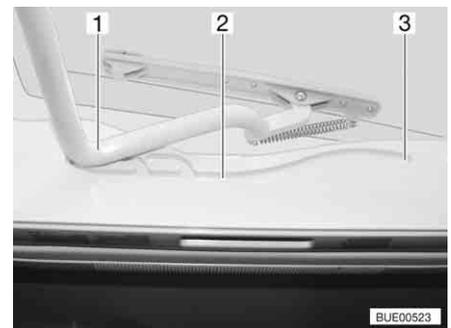

Fig. 58 Heki skylight, guide
- Pull the bar (Fig. 58,1) in the guides (Fig. 58,2) to the rearmost position (Fig. 58,3).
- Use both hands to push the bar (Fig. 58,1) slightly upwards.
- Pull the bar in the guides (Fig. 58,2) to the desired position.